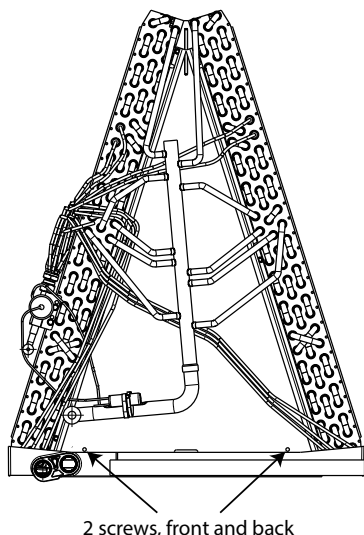

Fig. 3 – Attach Pan to Coil
2. Attach the pan to the coil using the four supplied screws (Fig. 3).